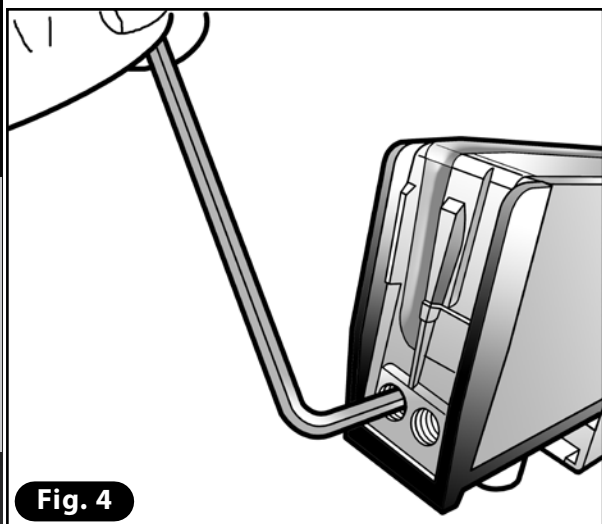

Fig. 4
- 4) Using a hexagon wrench, undo the screws of the element at both ends of the bar (**Fig. 4**).